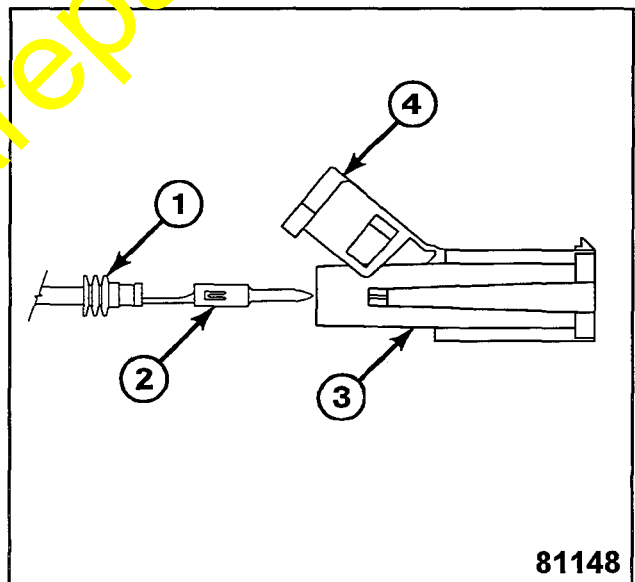

Figure 2
5. Place 1209477H1 seal (1, Figure 2) on end of insulation. Use Packard Weatherpack crimper to apply 1209465H1 pin (2) to wire.
6. Push pin into 1209473H1 shroud (3) from the rear until locked in place.
7. Firmly seat seals (1) using Packard cable seal insert tool and close rear of shroud (4) locking into place.